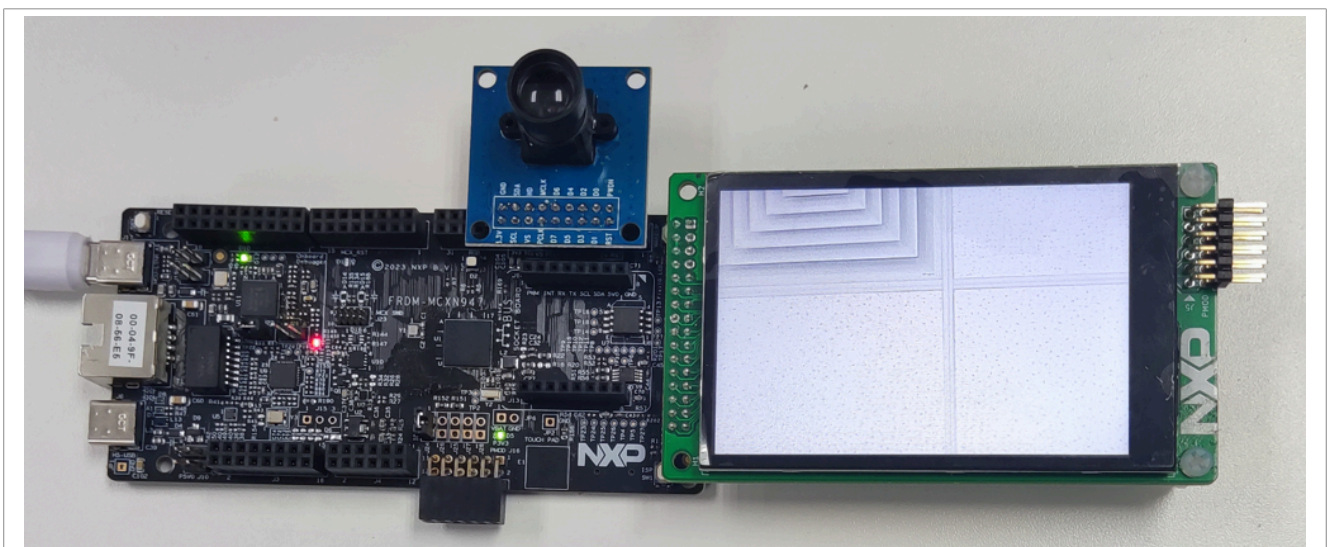

Figure 4. Demo
3. Connect the camera to the MCU by referring to the connection of interface in Figure 4.
5. The LCD displays the video frame from the camera, as shown in Figure 4.